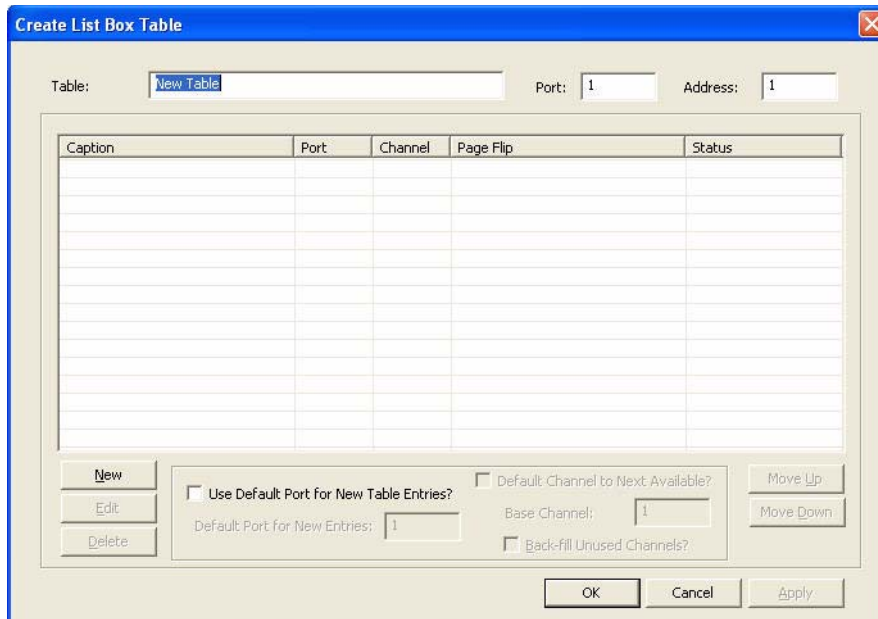

FIG. 37 Create List Box Table dialog
6. Click **OK** to confirm and launch the *Create List Box Table* dialog (FIG. 37).